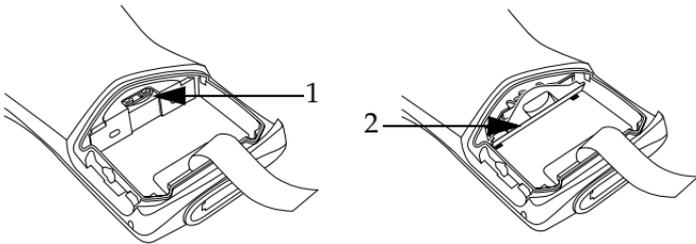

Figure 9: Opening CompactFlash Card Compartment
1. Open the battery door and remove the battery and flash card cover (see Figure 9, *Opening CompactFlash Card Compartment*, on Page 20).